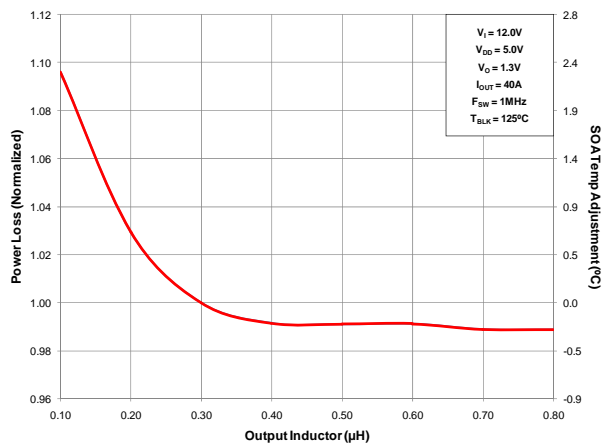

Figure 6 Normalized Power Loss vs. Inductance
| (Figure 6) | Normalized power loss for output inductor \approx 1.03 |
- (Figure 6) SOA temperature adjustment for output inductor $\approx 0.6^{\circ}\text{C}$